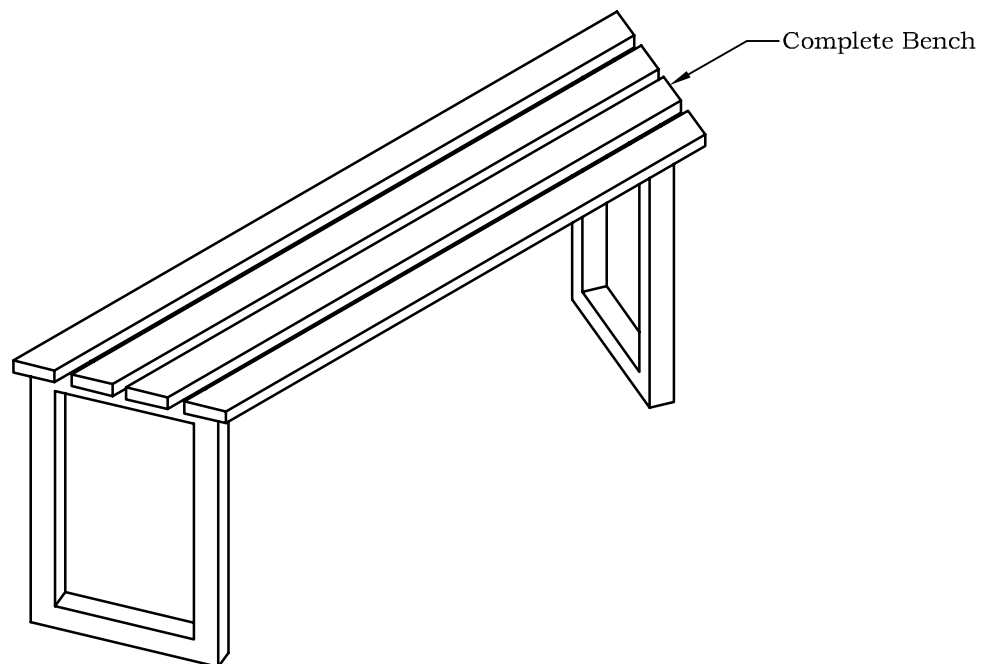

FIGURE S24
- The Hexgon Gazebo comes with 5 Benches and Octagon comes with 7. Each Bench has two legs. Attach both sets of legs to the Bench seat using 3" screws. See Figure S24.